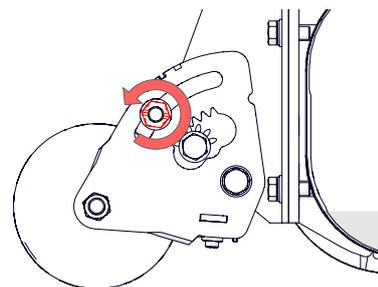

Fig. 8D - Loosen the top clamp nut of the roller quadrant
6. Loosen the top clamp nut of the roller quadrant [19 mm spanner] (Fig. 8D). Repeat on the opposite side quadrant.